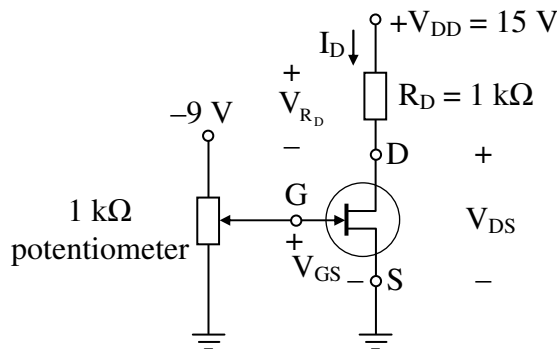

Fig. 7.6 Fixed-bias circuit
1. Construct the network of Fig. 7.6. Insert the measured value of R_D : R_D (measured) = _____ $\text{k}\Omega$.
6. Set $V_{GS} = -1 \text{ V}$ in Fig. 7.6 and measure V_{R_D} .